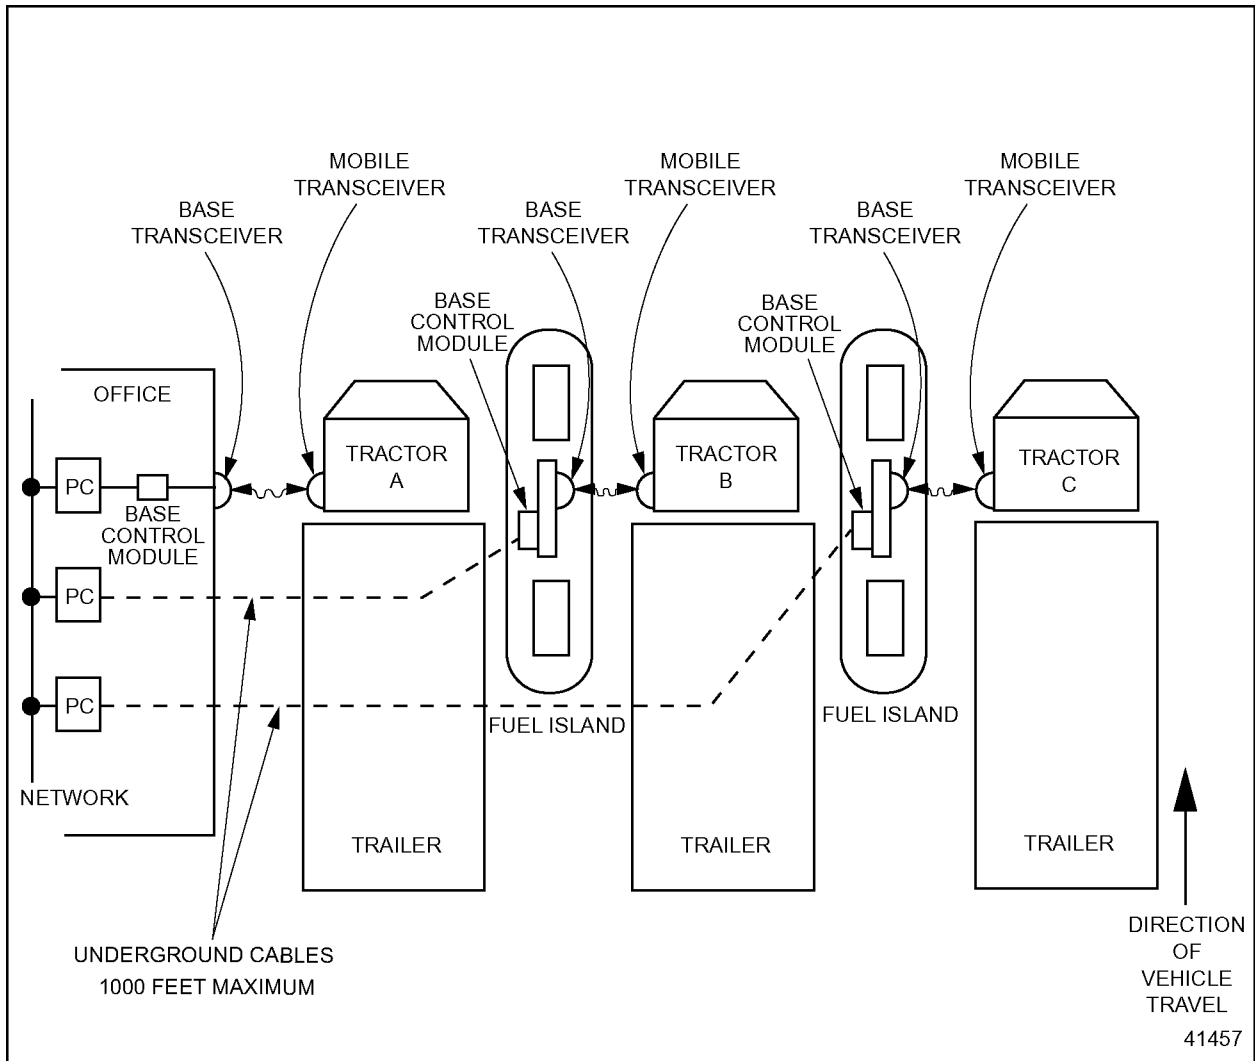

Figure 10. Multiple Transceivers, Multiple Base Control Modules, Multiple Lanes Providing Simultaneous Servicing
- Multiple Transceivers, multiple Control Modules covering multiple lanes for simultaneous servicing of multiple vehicles (see Figure 10).